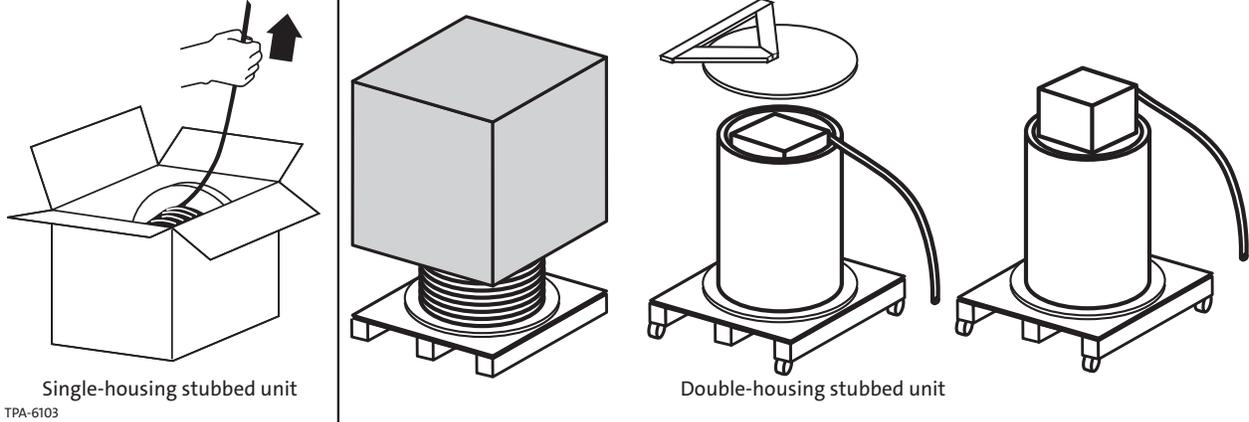

Figure 2
Step 1: Pull cable from reel (Figure 2).